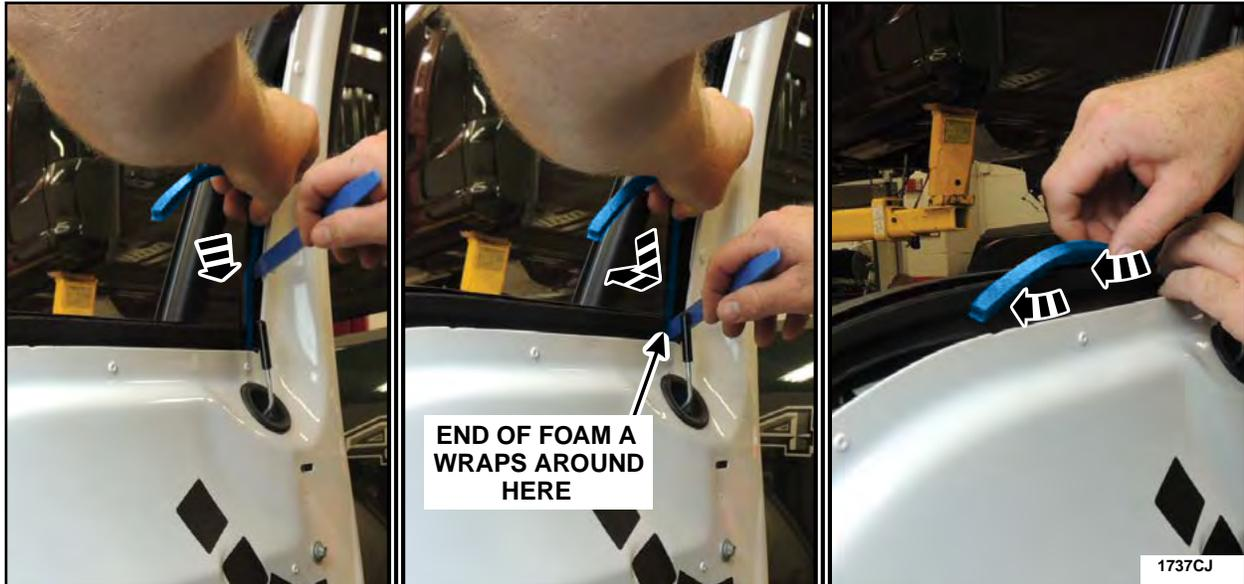

FIGURE 21
10. Using a small trim removal tool, install Foam A to the outer belt moulding on top of the bead of silicone that was previously applied. Both of the outer belt moulding clips need to be covered by the Foam A. See Figures 21 and 22.